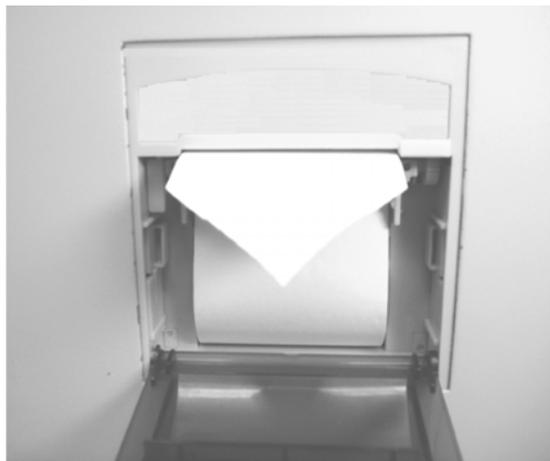

Figure 4-13
3. Flip the paper tension lever downwards to lock the paper in place, as Figure 4-13 shows.